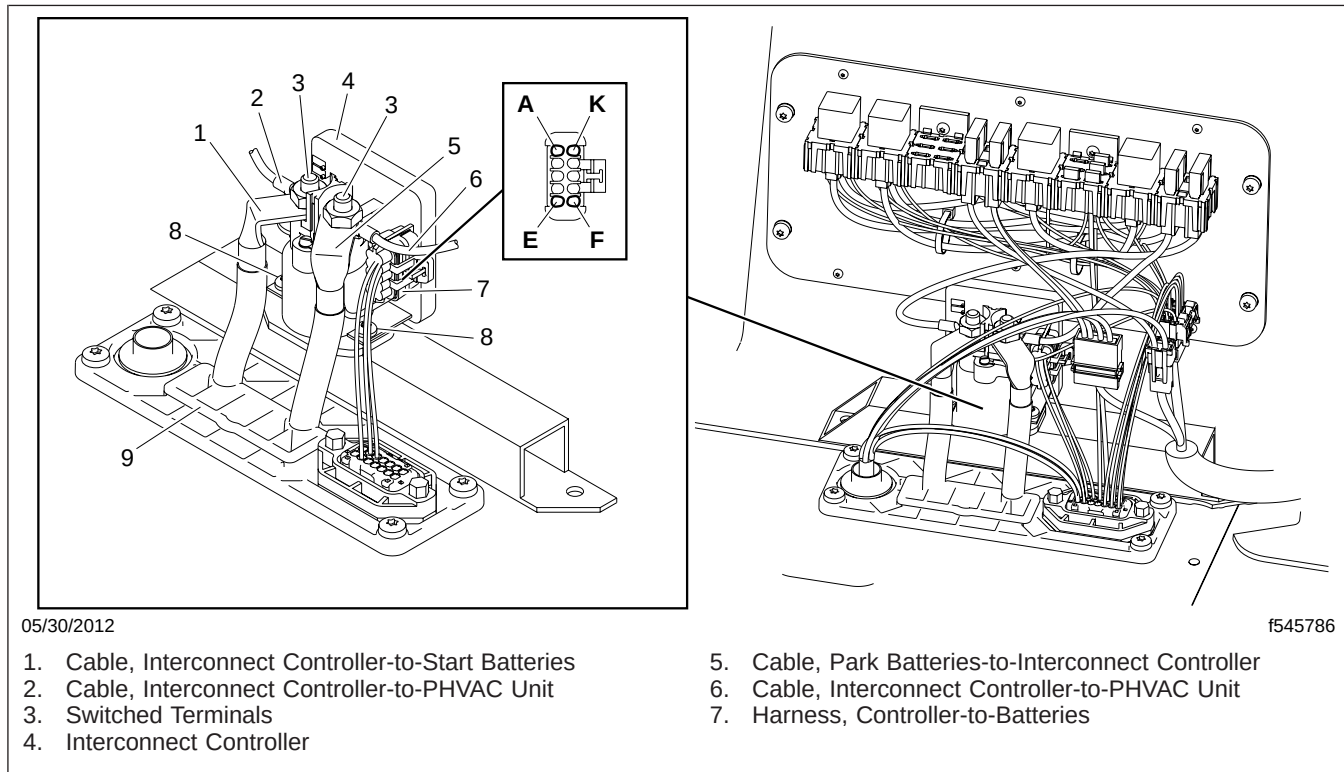

Fig. 5, Interconnect Ccontroller Installation (from July 2011)
13. Remove the terminal nuts from the interconnect controller, and disconnect the two wires going to the electrical center. See Fig. 5.